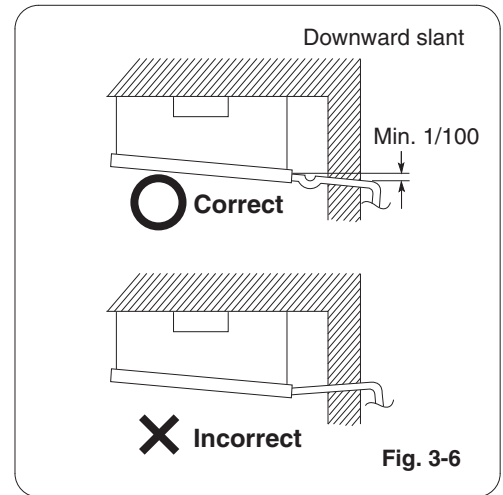

Fig. 3-6
- (3) Ensure the drain pipe has a downward slant (1/100 or more). (See the Fig. 3-6)
- (4) The drain pipe with a trap should be installed away from the indoor unit.
- (5) Do not forcibly install the drain pipe to the indoor unit tubing.